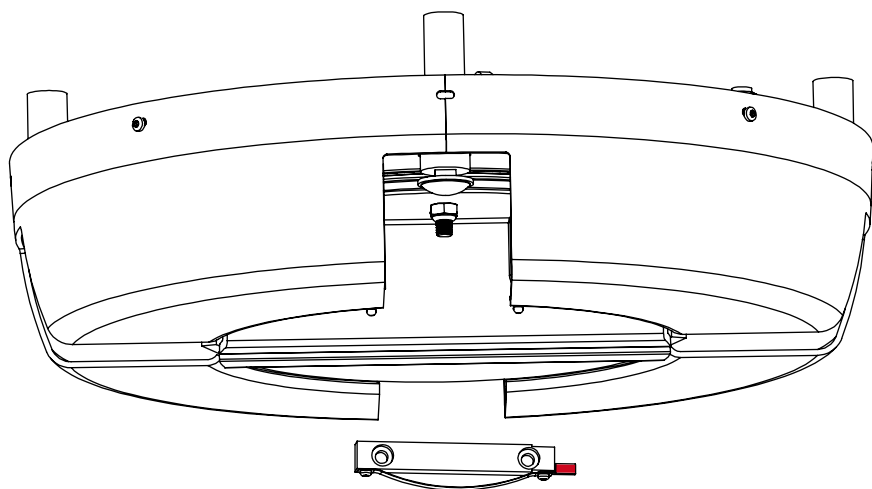

figure 3
- 3) Remove the plastic piece, incl. sheet metal plate (fig. 3).